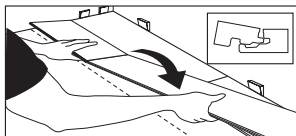

Figure 6
- Continue installing full boards in the second row by angling the short end of the next board in the row to lock into the previous board (Fig. 6). Position the board so that the long side of the board is close to boards in the previous row and overlapping the groove of the boards in the previous row.